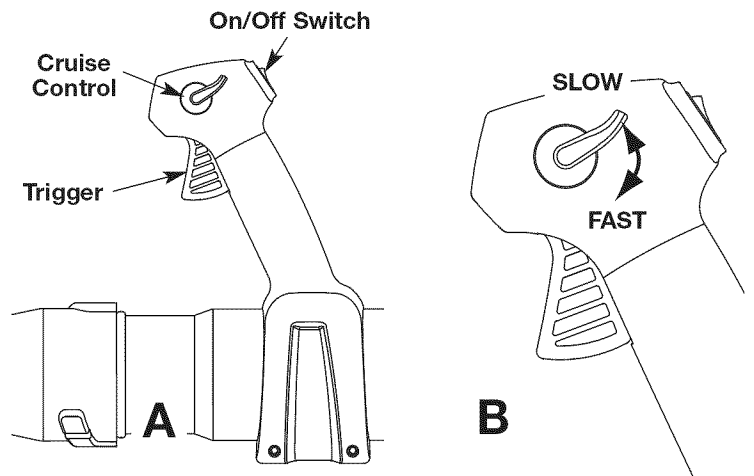

Fig. 16
**NOTE:** The unit should be started in idle. Do not squeeze the trigger while starting (Fig. 16, A).
1. Once the engine has started and warmed up, squeeze the trigger to accelerate the unit as needed (Fig. 16, B).
2. For longer periods of operation and to eliminate possible finger fatigue, move the cruise control toward the FAST position to incrementally increase or maintain the unit's engine speed (Fig. 16, B). When the cruise control is pressed, the trigger will recede into the handle.
3. To decrease engine speed, move the cruise control to the SLOW position and the trigger will return to idle position (Fig. 16, B).
2. Press the On/Off Stop Control switch in the OFF (O) position and hold until the engine comes to a complete stop (Fig. 16, A).
- Use the cruise control (Fig. 16) to keep the trigger depressed while operating to make continuous operation easier.